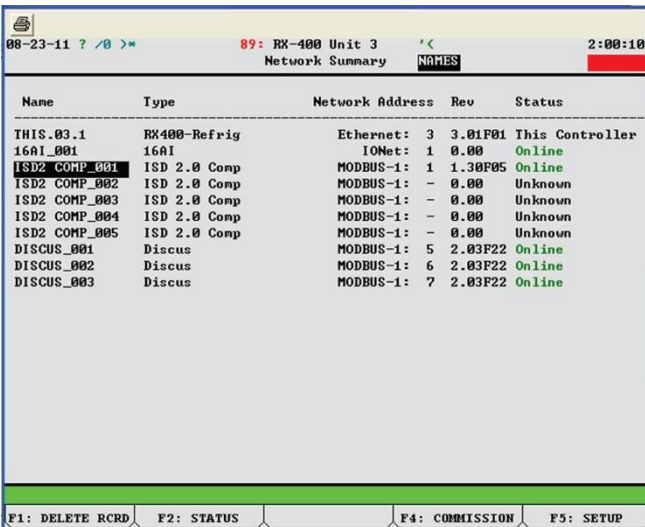

Figure 16 - Network Summary Screen
5. Repeat this process for each device Once a device has been successfully commissioned, the firmware version will be displayed, and the status will be shown as online (**Figure 16**).